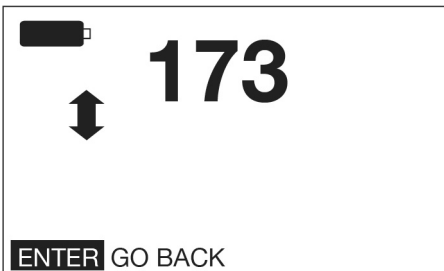

FIG. 21
8. Note the current K-FACTOR is displayed. In the example shown in Fig. 21 the K-FACTOR is 173.